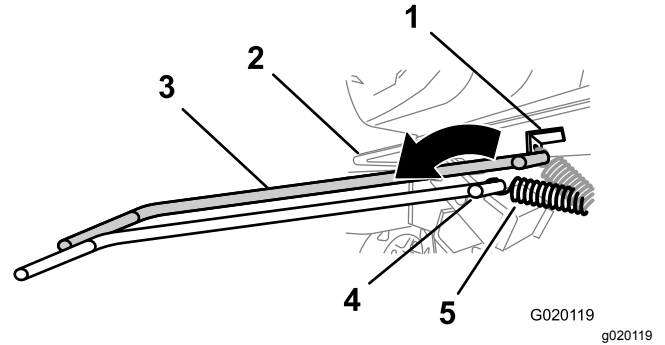

Figure 47
- Using a spring-removal tool (Toro Part No. 92-5771), remove the spring from the anchor bracket on the engine deck (Figure 47).
7. Using a spring-removal tool (Toro Part No. 92-5771), install the tension spring to the anchor bracket on the engine deck (Figure 47).